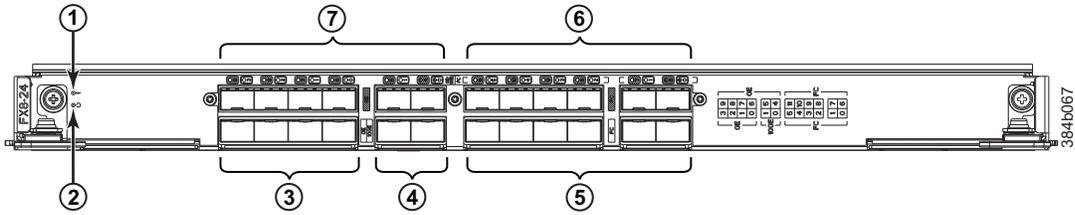

Figure 57. FX8-24 extension blade
- Figure 57 on page 139 shows an FX8-24 extension blade